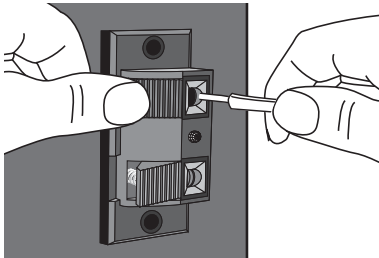

figure 5
3. Insert stripped wire (**figure 5**).